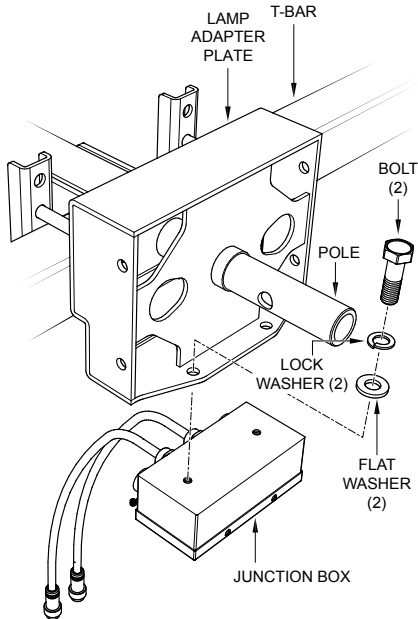

Figure 19. Junction Box Mounting
1. Secure the junction box (Figure 19) to the adapter plate using the supplied bolts (2), lock washer (2), and flat washer (2). Tighten mounting bolts securely.